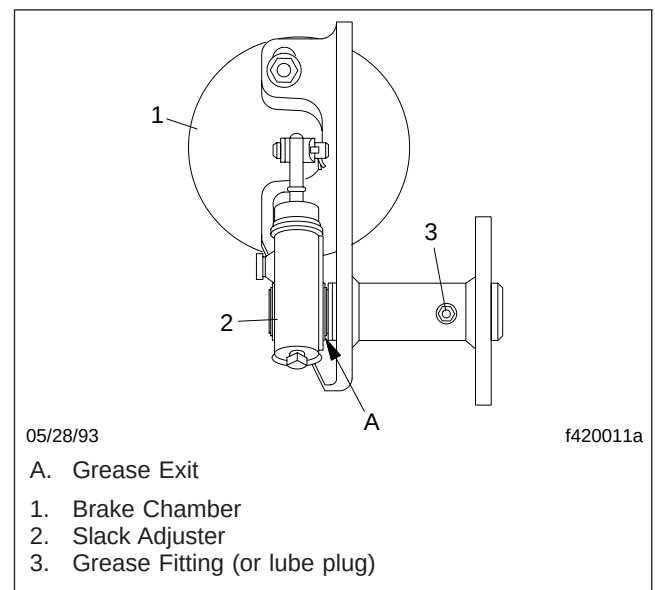

Fig. 13, Camshaft-and-Chamber Bracket Lubrication
- 9.4 Using Meritor-approved NLGI grade 2 synthetic polyurea grease (EVO-LUBE TEK-615), lubricate the brake assembly through the grease fitting in the bracket until new grease flows from the inboard seal. See Fig. 13.